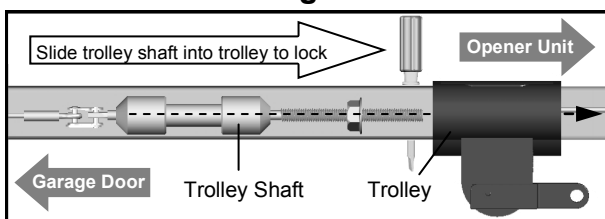

Fig.3
8. Slide the Trolley Shaft into the Trolley until you hear a "click" when they lock together. See Fig. 3.